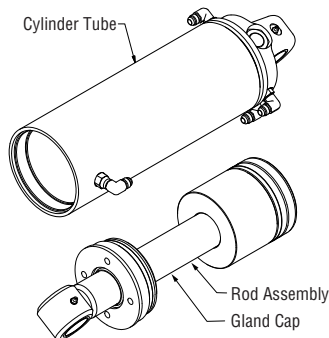

Figure 5-39, Rod Assembly
3. Remove the rod assembly from the cylinder tube. (Figure 5-39)